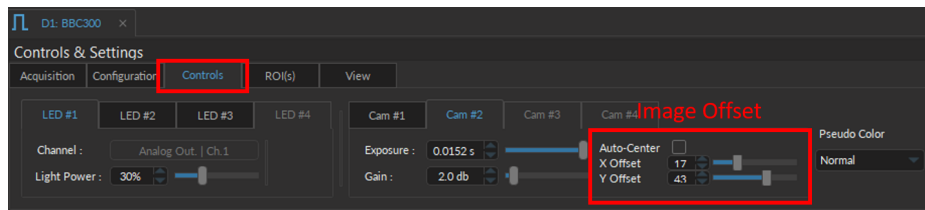

Figure 1.13: Adjusting Image Offset
- Second, adjust the field of view offset along the X and Y axes. To do this, switch to the **Control** tab. Disable **Auto Center**, then adjust the X and Y offset until all fibers are within the field of view (Fig. 1.13).